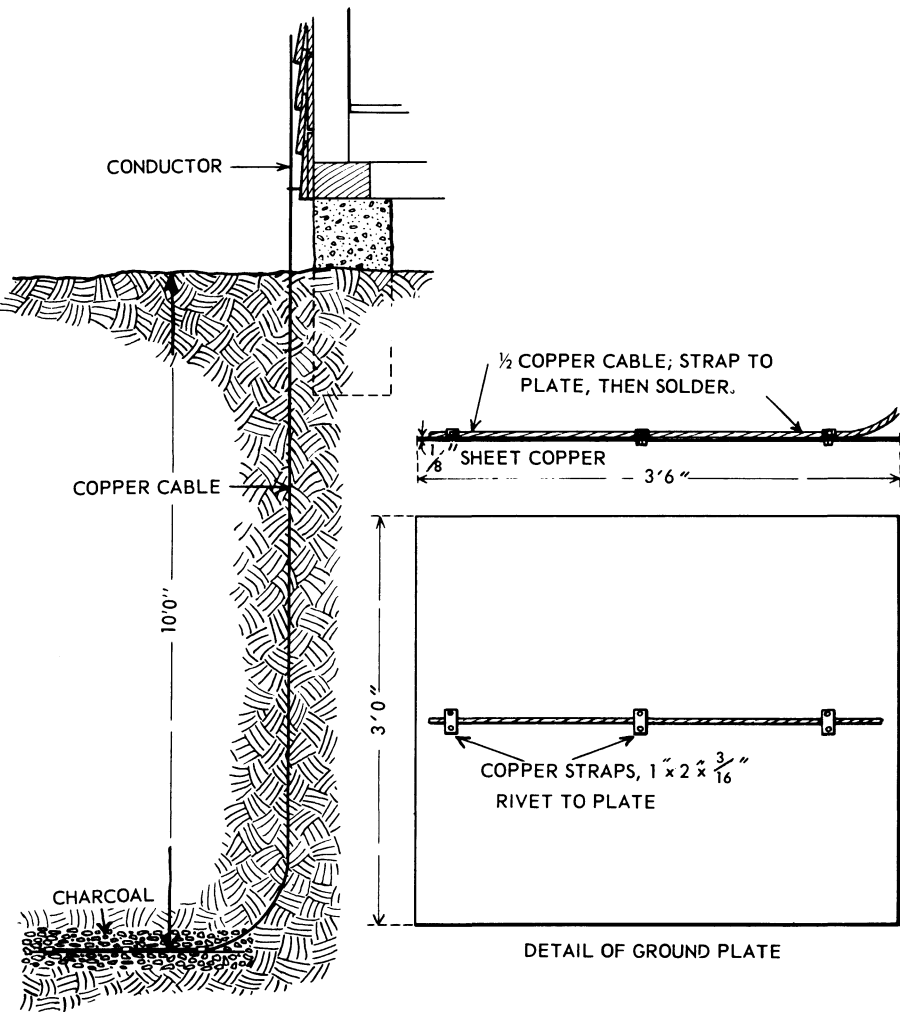

Figure 12.—Ground made by clamping a copper conducting cable to a buried sheet metal plate.
- By clamping copper conductor cable to a buried sheet metal plate (fig. 12).